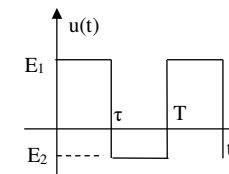

Figure 5: Asymmetrical rectangular waveform
3. The voltage represented in figure 5 is measured with a voltmeter that can measure DC voltages and AC voltages, with a full wave rectifier :